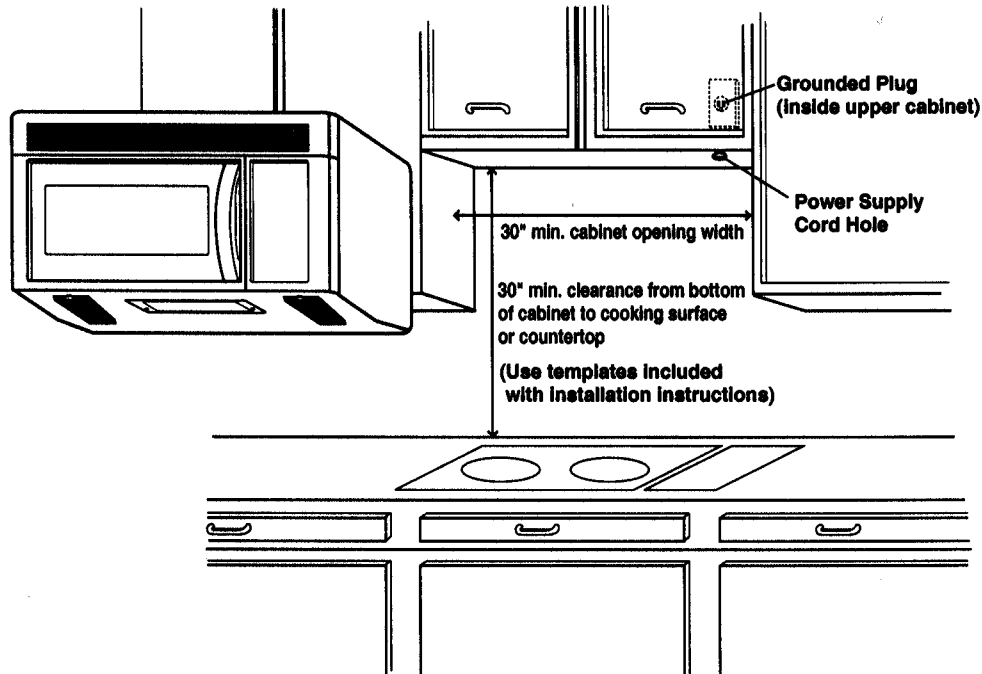

Figure 4
- BE SURE you have enough space. See Figure 4 below for minimum vertical and horizontal clearance.
1. Locate the grounded electric outlet for this oven in the cabinet above the oven, as shown in Figure 4 Detail.
2. You will cut the power-supply-cord hole (shown in Figure 4 Detail) later when you prepare the wall and upper cabinet in Step 4.